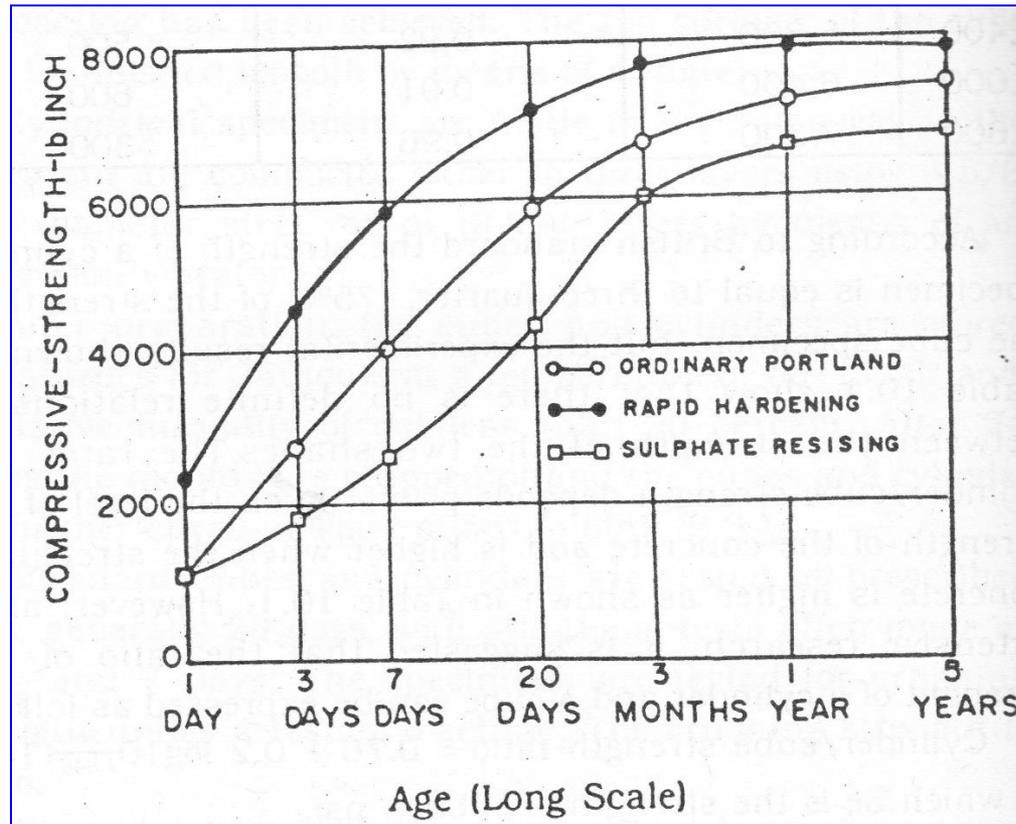

Fig. 10.1 Rate of development of strength of different type of cement concrete
- The rate of gain of strength of different type of cement concrete are different (as shown in Figure 10.1.).